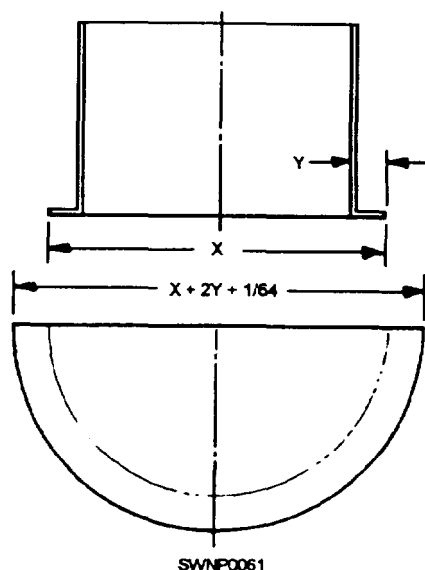
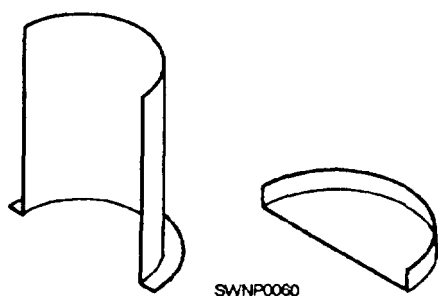

Figure 2-44.—Calculating the material needed for a double seam.
Figure 2-43.—Burrs turned on a cylindrical section.
**Turning a Burr.**— A BURR, in sheet-metal language, is a narrow flange turned on the circular section at the end of a cylinder (fig. 2-43). Before you cut the section, remember that additional material must be added to the basic dimensions of the object for the burr. Figure 2-44 shows how to calculate the additional material.